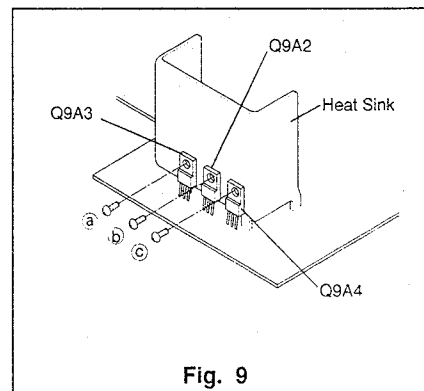

Fig. 9
- 6 To service the component side, remove three screws (Ⓐ, Ⓑ and Ⓒ: 669D222O90) retaining the Heat Sink shown in Fig. 9.